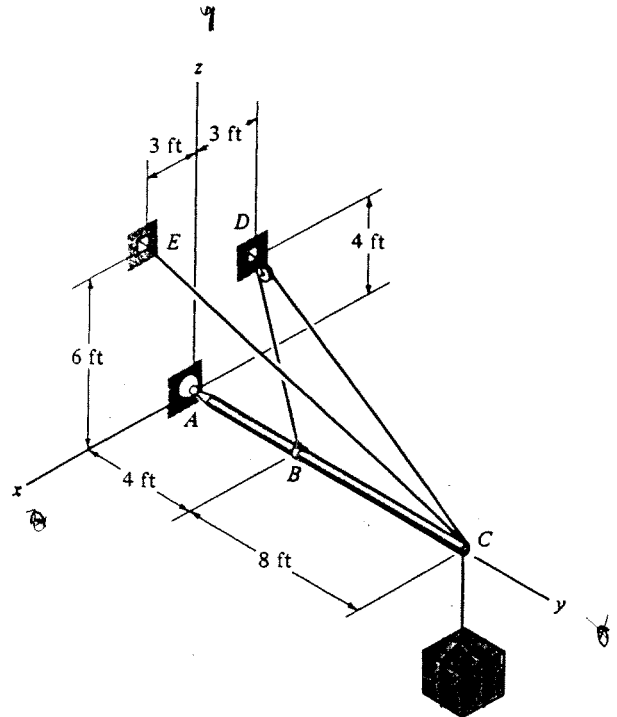

Fig. 1
35 (1) As shown in Fig. 1, the boom  $AC$  is supported at  $A$  by a ball-and-socket joint and by two cables  $BDC$  and  $CE$ . Cable  $BDC$  is continuous and passes over a frictionless pulley at  $D$ . Calculate the  $x, y, z$  components of reaction at  $A$  if a crate, having a weight of 80 lb, is suspended from the boom.